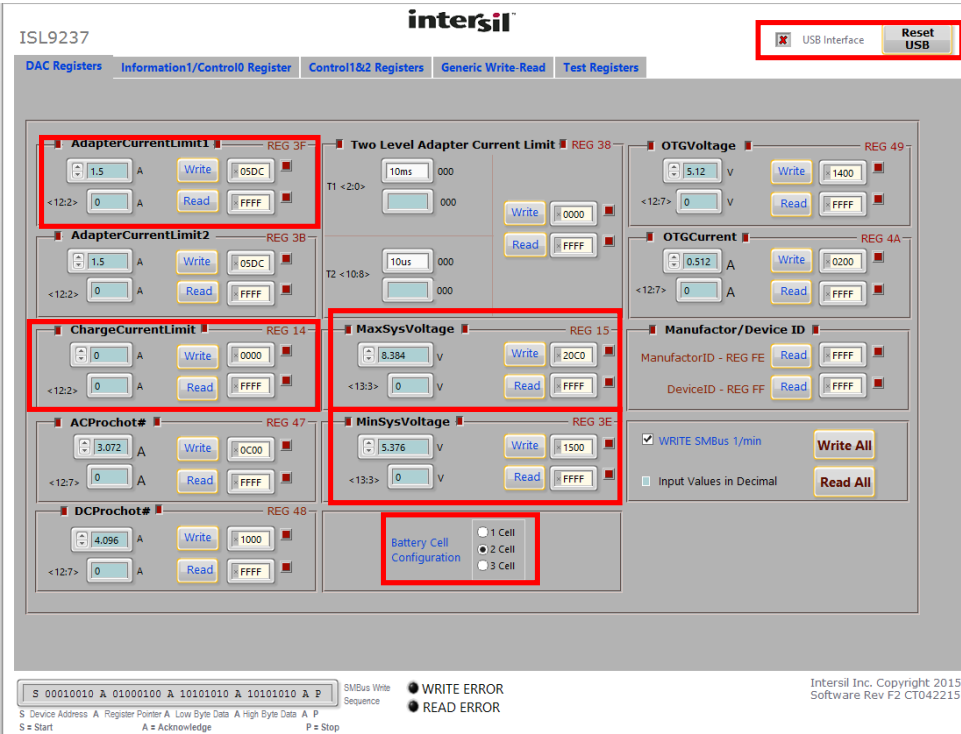

FIGURE 2. GUI SNAPSHOT
programming options. After the default number of cells in series are set, the default values for MaxSystemVoltage and MinSystemVoltage are set accordingly. These values can also be changed through the SMBus control registers, which are implemented with the Intersil GUI, shown in Figure 2 on page 3.
4. Turn on the power supply; LED 3 goes out. Then turn on the battery emulator and open Intersil ISL9237 GUI (Figure 2 on page 3). Note: The USB interface with a green tick means the GUI is ready to communicate with the evaluation board. If the USB interface shows a red cross, the GUI is not ready to communicate with the evaluation board. Click the “reset USB” button until a green tick shows in the USB interface. If not green, check the USB connection.